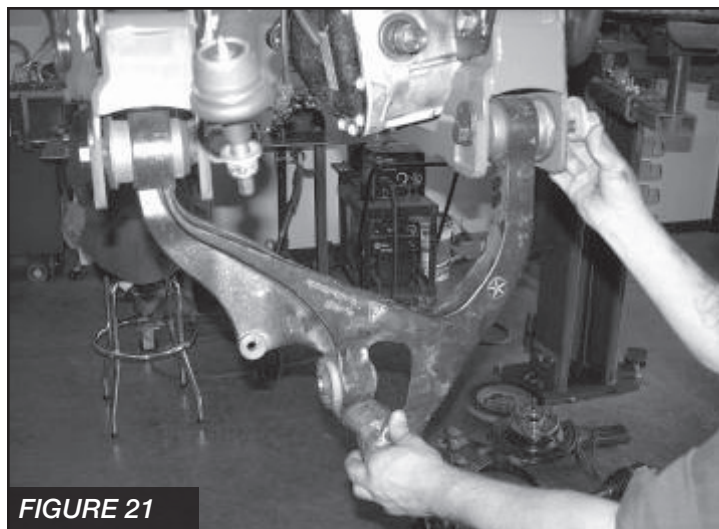

FIGURE 21
31. Working from the driver side of the truck, install the factory lower control arm to the Fabtech crossmembers using the original alignment cam bolts. Leave loose at this time. **SEE FIGURE 21**